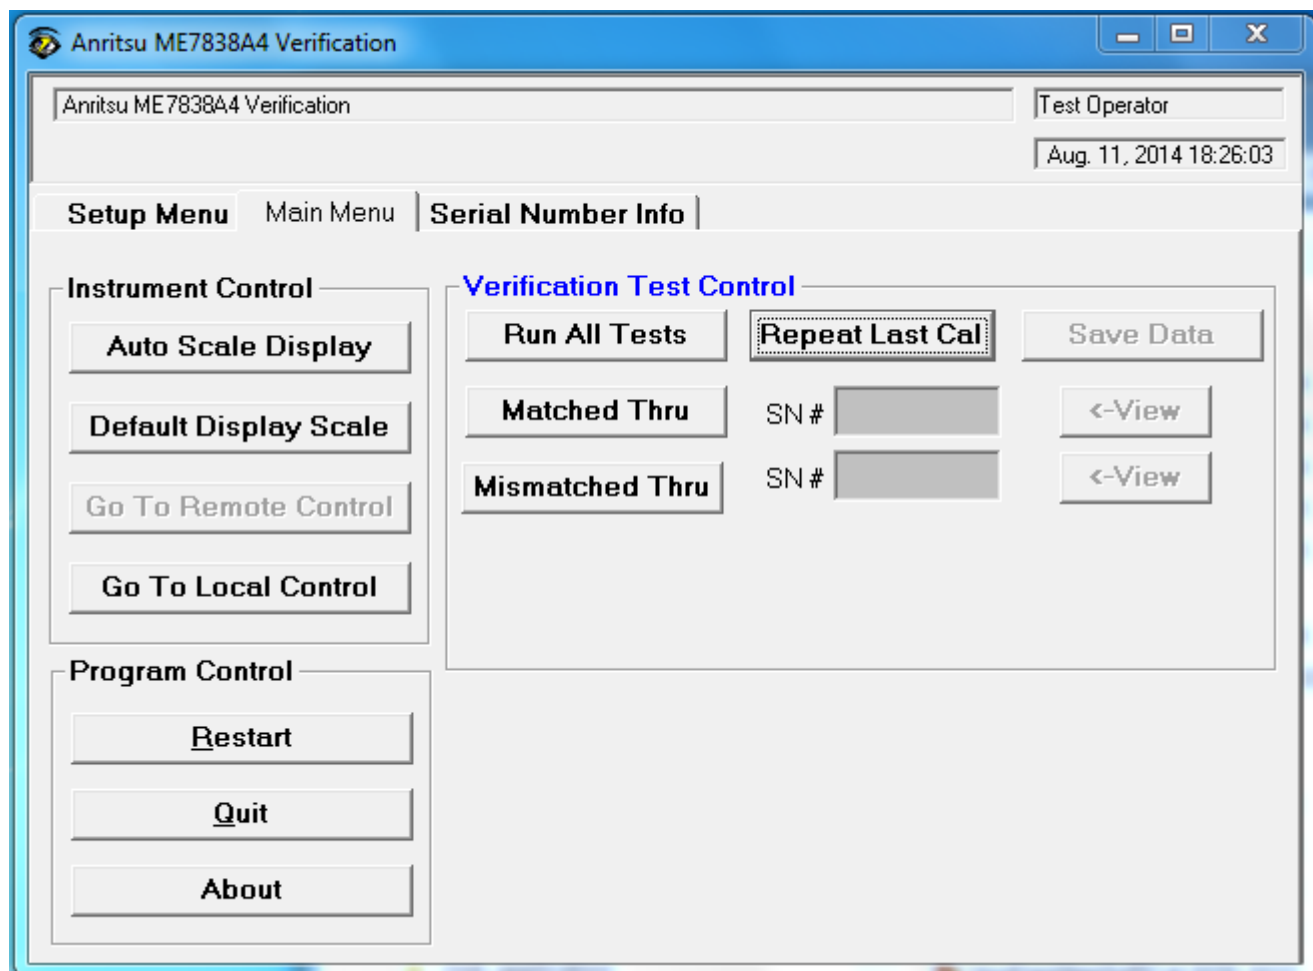

Figure 3-43. ME7838A4 Application Interface – Main Menu Tab
- The Main Menu tab display is described in the section immediately following and is shown in Figure 3-43
This command button runs both the Matched Thru and Mismatched Thru tests. Program execution starts with Section 3-11 “Matched Thru Tests” on page 3-32 and then continues with Section 3-12 “Mismatched Thru Tests” on page 3-35. When both tests are completed, program execution returns to the Main Menu tab shown in Figure 3-43 on page 3-27.
This command button re-calibrates the VNA according to the CURRENT calibration. This provides a way to recalibrate the VNA without having to reset the program parameters in case the original calibration was flawed for some reason. When the calibration sequence is complete, program execution continues to the Main Menu tab shown previously in Figure 3-43 on page 3-27.